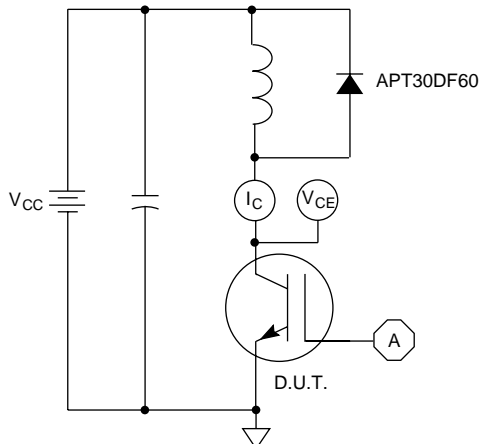

Figure 21, Inductive Switching Test Circuit
- ⑤ E_{on2} is the clamped inductive turn-on energy that includes a commutating diode reverse recovery current in the IGBT turn-on switching loss. A Combi device is used for the clamping diode as shown in the E_{on2} test circuit. (See Figures 21, 22.)
- ⑥ E_{off} is the clamped inductive turn-off energy measured in accordance with JEDEC standard JEDS24-1. (See Figures 21, 23.)
- ⑦ Continuous current limited by package lead temperature.